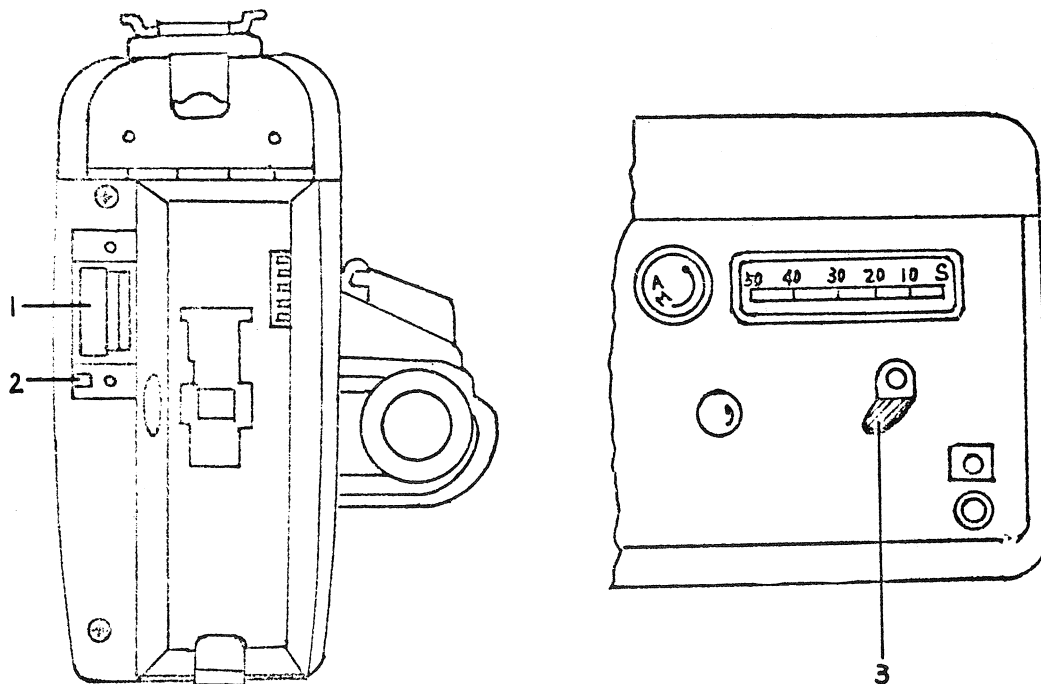

Fig. 20
- a-1. If the cover of the dry mercury battery compartment (1 in Fig. 20) is removed the point shown in Fig. 20 (2) can be seen. Inspect constant voltage at this point. Constant voltage is determined by measuring voltage between the body and point at the (-) terminal.
- a-2. The voltage adjusting point window, shown in Fig. 20 (3), is employed when constant voltage deviates markedly from the specified voltage of 3V. Constant voltage is set by inserting a screw-driver into this part and adjusting the variable resistor, directly below.